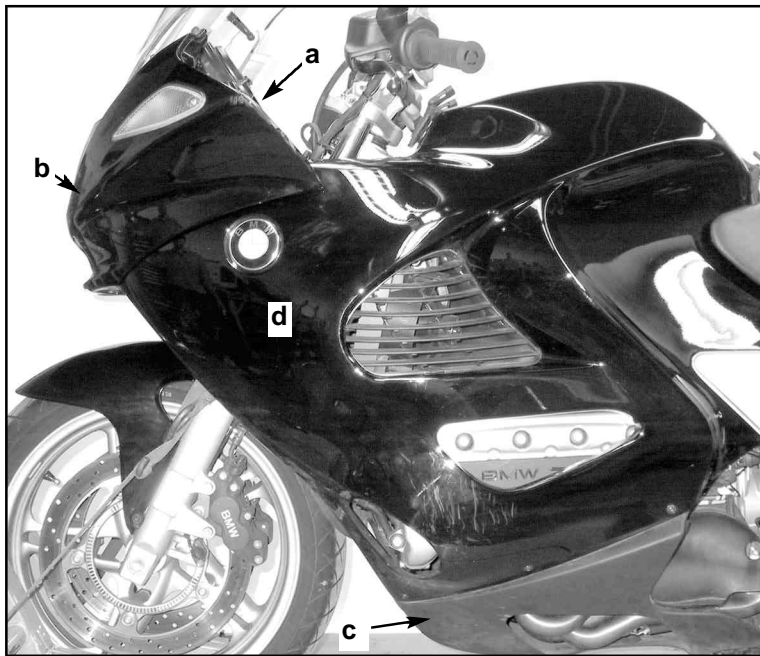

Figure 1
2. Remove the following body pieces: **Figure 1**